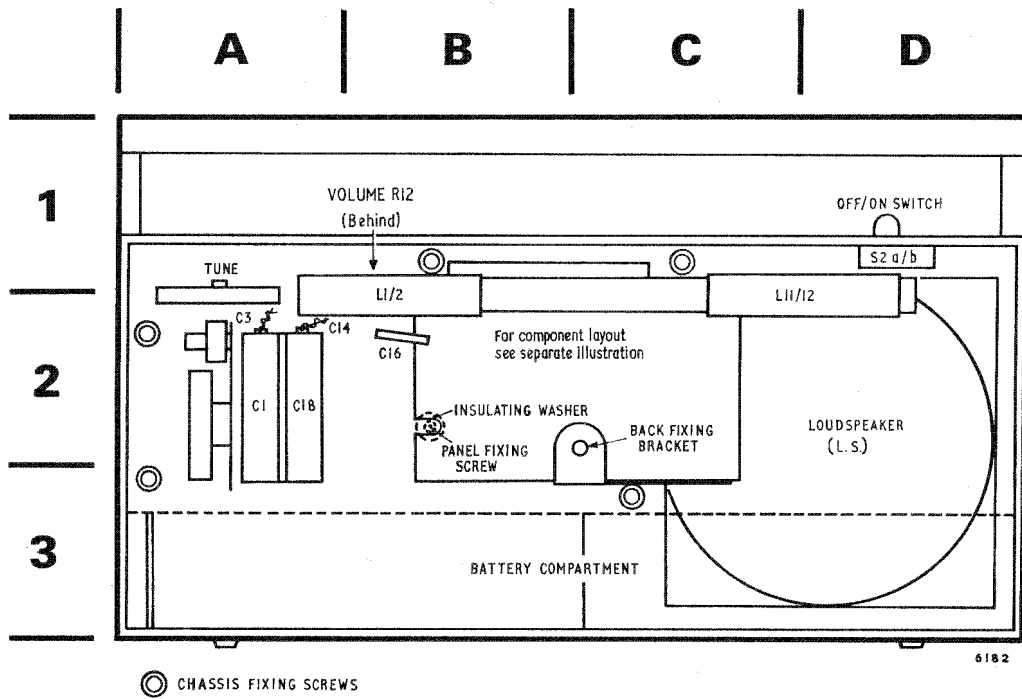

Fig. 2. Chassis—General view.
2. Remove the five chassis fixing screws shown in Fig. 2.
4. Remove the panel fixing screw shown in Fig. 2.